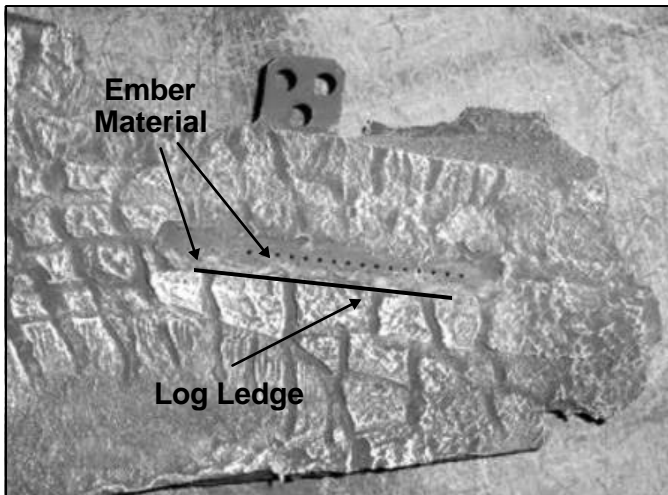

Figure 46. Port holes in log
- Place small pieces of Glowing embers on log ledge (see Figure 46). Making sure not to block any port holes.